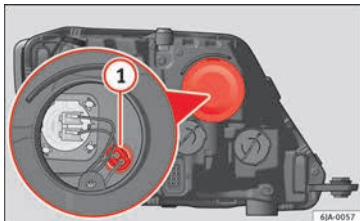

Fig. 89 Changing side light bulbs.
- Remove the protective cover »» **Fig. 89**.
- Remove the bulb holder »» **Fig. 89** ① by pulling it outwards.